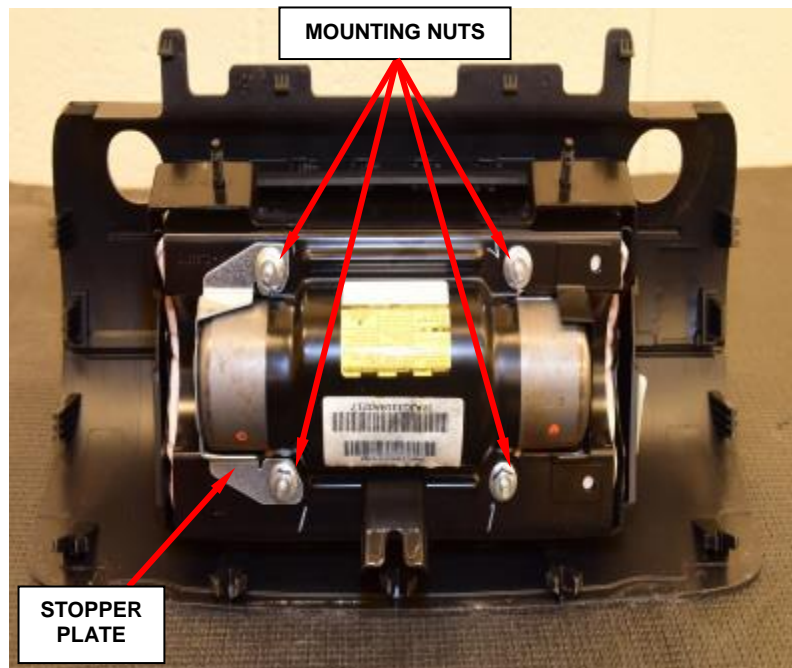

Figure 174 – Mounting Nuts
b. Remove and **discard** the four mounting nuts from the passenger airbag module (Figure 174).